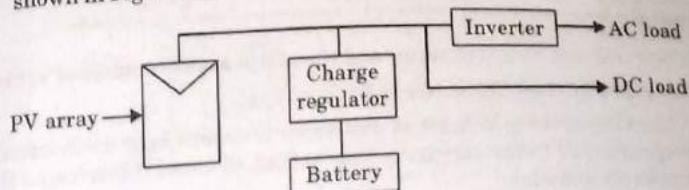

Fig. 1.12.1. Block diagram of solar photovoltaic system.
5. Batteries are charged during the day and supply power to loads as shown in Fig. 1.12.1.